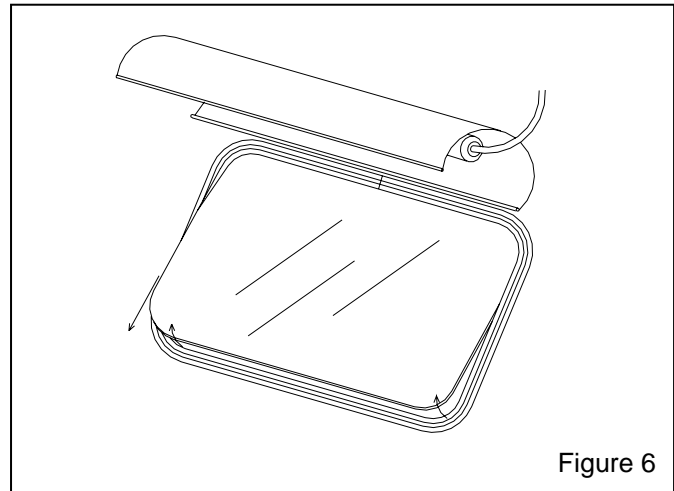

Figure 6
6.3.3. Place an arm into a glove, and push the bottom edge of the window out of the molding, as shown in Figure 6, while supporting the top of the window with the other hand.